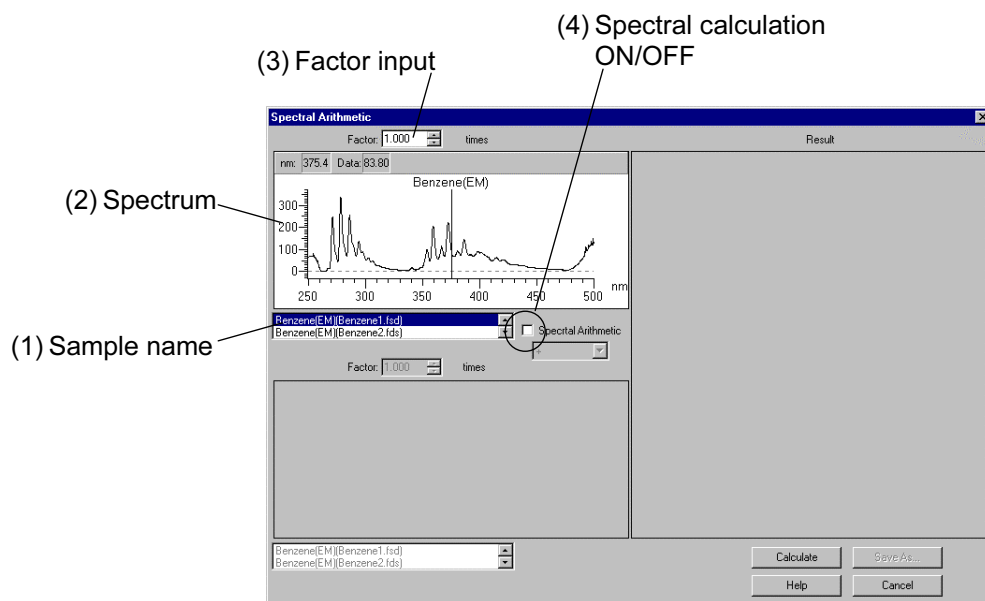

Fig. 6-19
Display the spectrum for arithmetic operation. Now, click the Arithmetic (A) command on the Data (D) menu or click the  (spectral calculation) on the Processing toolbar. A window as in Fig. 6-19 will open.